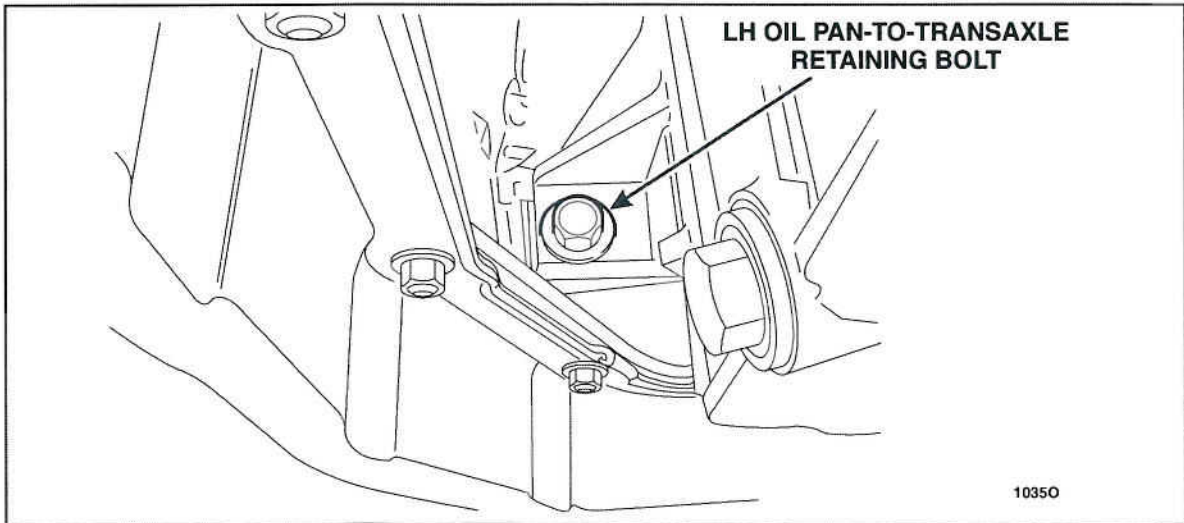

FIGURE 24
52. Remove the LH oil pan-to-transaxle retaining bolt. See Figure 24.
8. Install the LH oil pan-to-transaxle retaining bolt. See Figure 24.